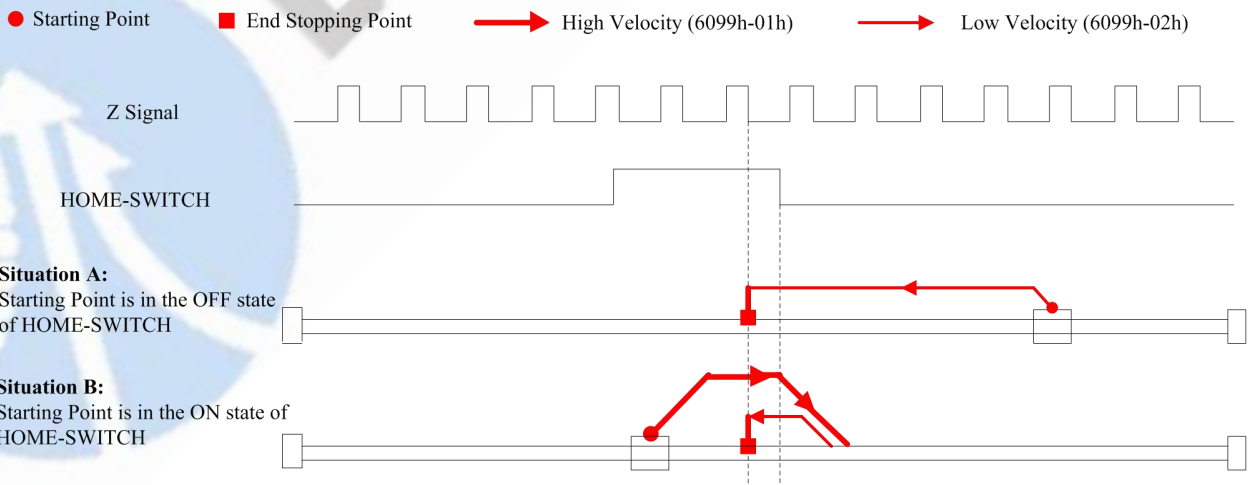

Figure7-6: Method 6
- If the motor starting point is in the ON state of HOME-SWITCH like Situation B, it will move toward positive direction at Fast Homing Velocity (6099-01h), then the motor has a deceleration stop and starts to move toward negative direction at Low Homing Velocity. Stop the motion at the first effective Z signal during the ON state of HOME-SWITCH, as shown in Figure 7-6.